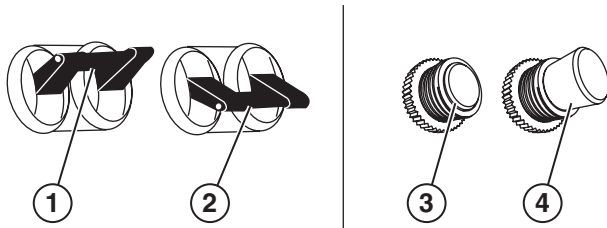

Figure 21 – Circuit Breakers
2. Make sure the circuit breakers are properly set (see *Figure 21*).